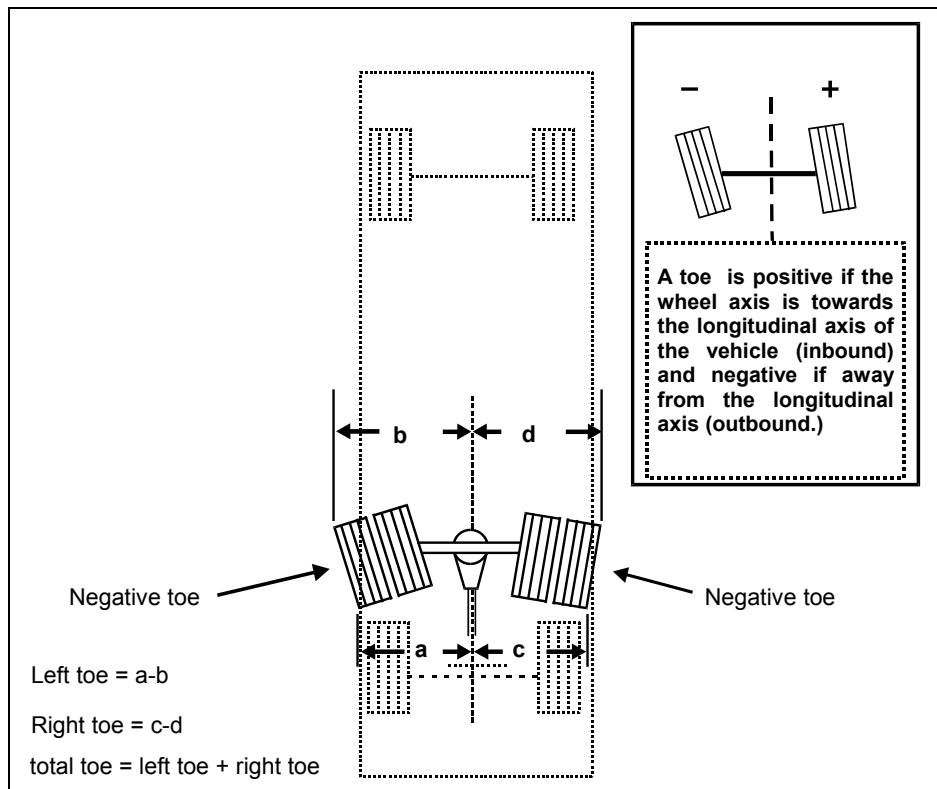

FIGURE 7: DRIVE AXLE TOES
1. Measure left and right differential toes (Fig. 7).